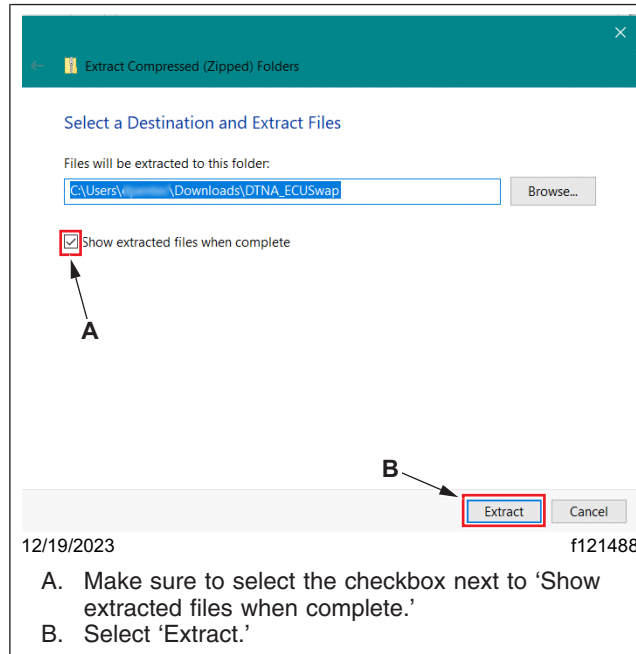

Fig. 20, Selecting the Destination to Extract the Files
- 1.10 The 'Extract Compressed (Zipped) Folders' window appears. Make sure the checkbox next to 'Show extracted files when complete' is selected, then select 'Extract.' See Fig. 20.